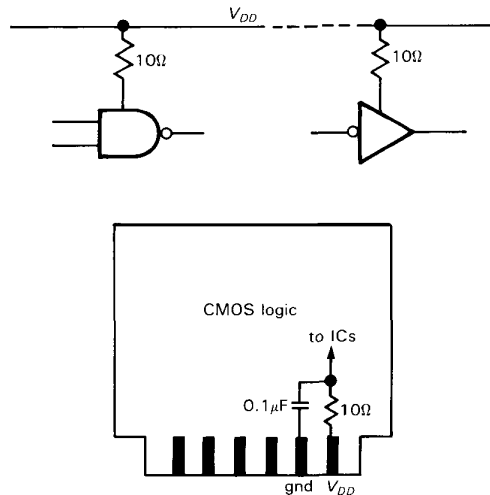

Figure 14.39. Supply current sensing ("current spy").
7. *Put current-sensing resistors in the V_{DD} lead.* In certain failure modes (see below), particularly those caused by static damage, a CMOS chip may draw excessive quiescent current; a 10 ohm resistor in series with V_{DD} on each board (bypass the load side) makes it easy to see if that is happening. Putting such a resistor on each chip (usually no need to bypass in this case) allows you to locate the bad chip quickly (Figure 14.39).